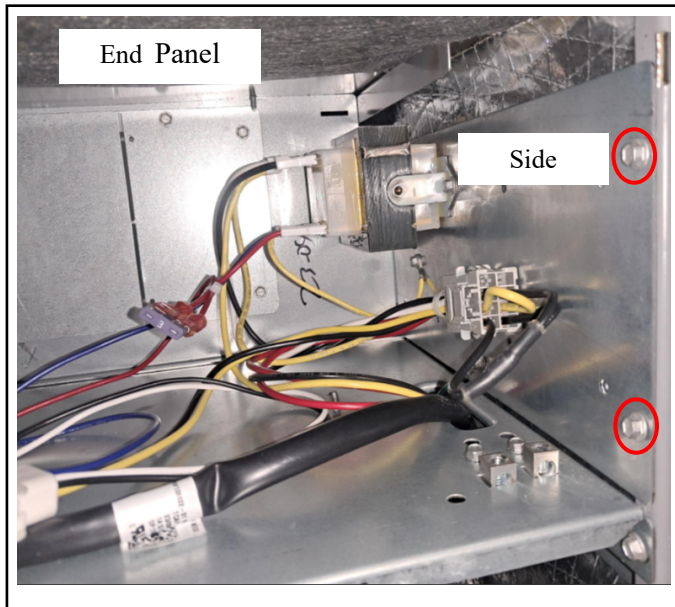

Figure 21. Electrical Connections (Upflow Configuration)
To avoid the possibility of moisture damage to the control in some right-hand discharge configurations, the control panel can be relocated to the end panel as shown in Figure 21.
- 1 - Remove the two screws that secure the control panel to the cabinet. See Figure 21. Slide panel out.